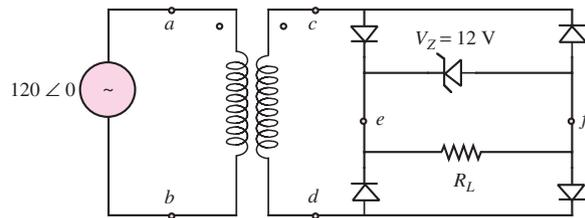

Figure P12.20
12.20 Figure P12.20 depicts a low-cost full-wave rectifier with a Zener diode voltage regulator. Sketch the voltages across terminals  $a$ - $b$ ,  $c$ - $d$ , and  $e$ - $f$ .